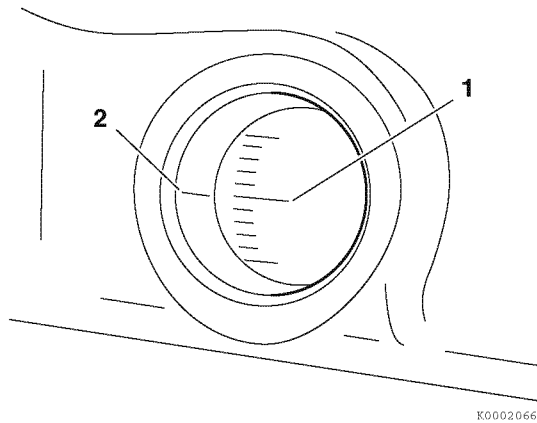

Figure 7-39
2. Rotate the flywheel until the target timing mark (1, **Figure 7-39**) and the timing reference mark (2, **Figure 7-39**) on the flywheel housing or back plate are aligned.